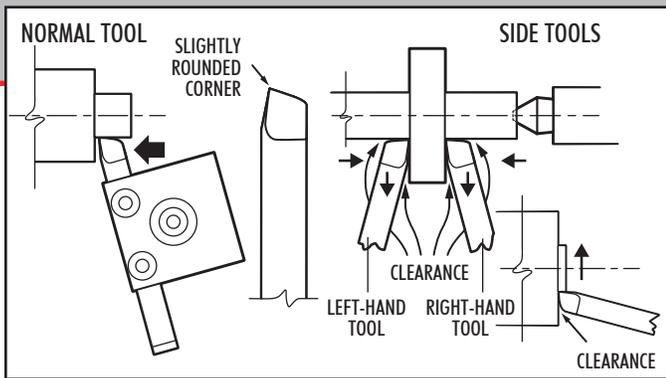

FIGURE 45—Arrows show direction of tool feed in all diagrams.
**Turning Tools (Left- and Right-Hand)**—Reference to Figure 45 will illustrate the lateral positioning of this tool. Note the clearance behind the point between the end of the tool and the work. Insufficient clearance will cause the tool to “rub,” and excessive clearance will produce a ridged or wavy finish due to the small length of tool edge in contact with the work. This ridging becomes more pronounced with rapid feed. To provide a smooth finish, the sharp cutting point may be slightly rounded with an oil stone, taking care to preserve the side clearance underneath this corner.